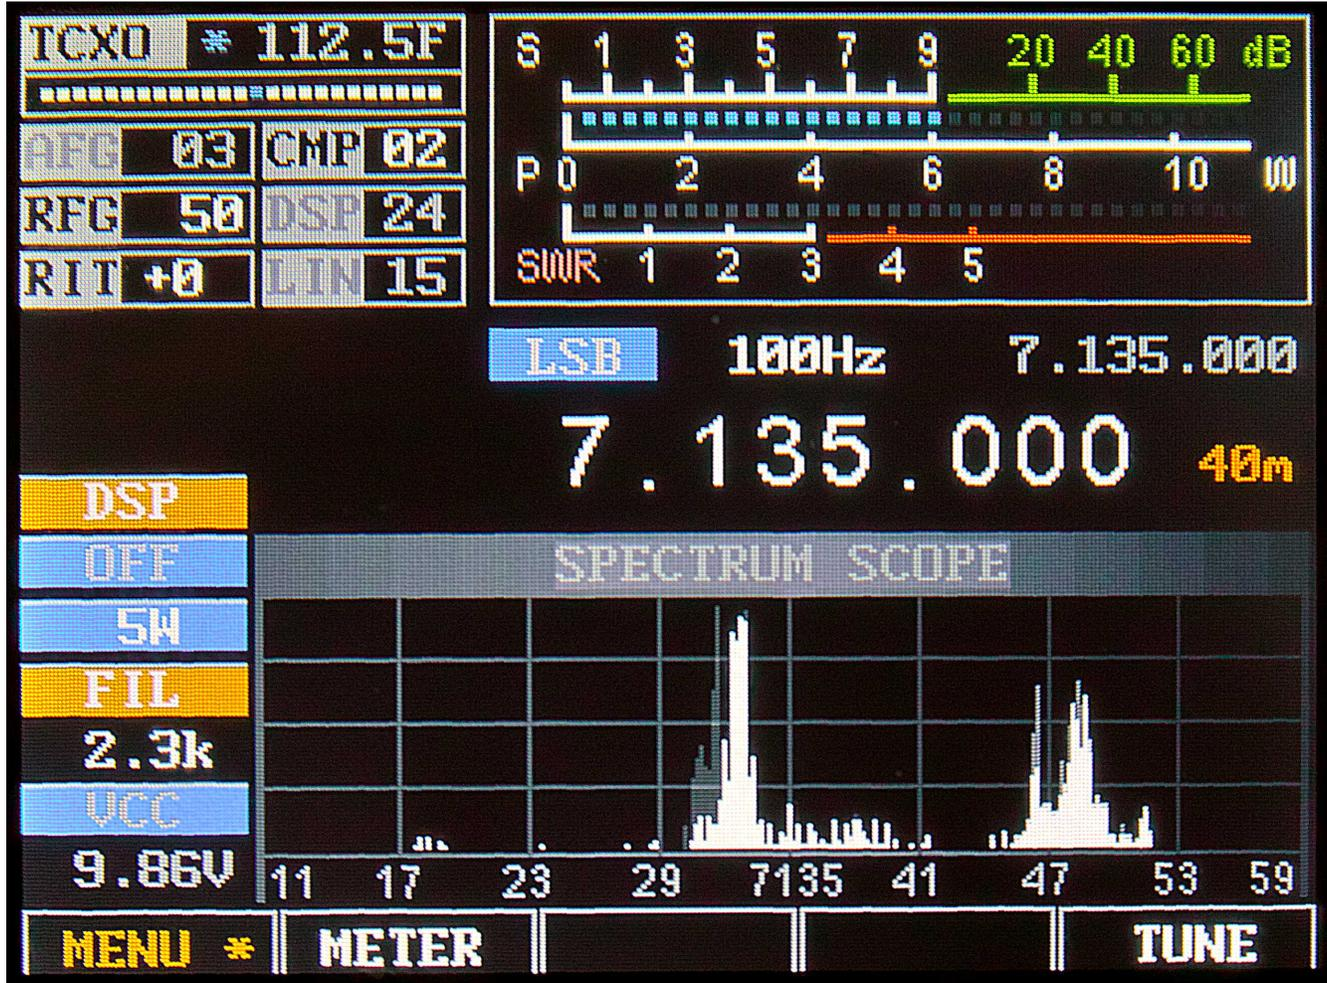

Figure 2: Main display of the mcHF transceiver.
- **Band Display:** To the right of the main display is an indicator of the amateur band in which the current frequency is tuned. If the current frequency is outside an amateur band it will display “Gen” (e.g. “General Coverage”). In **Figures 2 and 3** the band is set to 40 meters.
- **Mode Indicator:** Above the “10's” digit of the main frequency display is the current mode displayed on a blue background. In **Figures 2 and 3** the mode is set to LSB.
- **Step Size Indicator:** Above the center of the main frequency display, between the Mode Indicator and the “Sub” Frequency display is the setting of the current step size. In **Figures 2 and 3** the step size is set to 1 kHz. Optionally, a “marker” may be activated that puts a line under the digit indicating the currently-selected step size (*see the menu item “Step Size Marker”*).
- **TCXO Mode/Display:** In the top-left corner the “TCXO” box indicates whether the TCXO (Temperature-Compensated Xtal Oscillator) is active or not. The TCXO is used to read the temperature of the Si570 synthesizer (U8 on the RF board) and apply a compensation to it to keep on frequency. When it is active the bar graph below the temperature display will display white dots with a blue marker that moves about but when set to “Off”, the bar graph will be grayed out. If set to “Stop” the temperature display will be replaced with “STOPPED”. In **Figures 2 and 3** the TCXO is set to ON and displaying a temperature of 112.5F, but this may be set to display the temperature in Centigrade.
- **S-Meter:** This S-meter is nominally calibrated so that S-9 equals 50 microvolts into a 50 ohm load with each S-unit representing 6 dB. Practically speaking, the usable range of the S-meter ranges from about S-3 to something a bit higher than “40 over” which, if you were “run the numbers” about matches the dynamic range of the receiver! The bottom half of the S-Meter's graticule (“S0-S9”) is normally white in color, but if the receiver's A/D converter experiences an overload condition, it will turn red. On bands with strong signals it is normal for this to momentarily flash red as the internal gain control adjusts itself. In **Figures 2 and 3** the S-meter is displaying a signal level of S-9.
- **VCC:** Below this is a voltmeter that indicates the current supply voltage. Below 9.50 volts, the digits are displayed in red indicating that the voltage may be too low for the transceiver to operate properly. *Note that below 10.5 volts, attempting to obtain more than 3-5 watts of “clean”, distortion-free RF output from the transceiver may not be possible, particularly on the higher bands!* In **Figures 2 and 3** the voltmeter is indicating 9.86 volts.
- **FIL:** Below this is the current filter bandwidth setting, selectable by using button **G4**. In **Figures 2 and 3** the bandwidth is shown being set to 2.3 kHz.
- **Power Output Setting:** Just above the **FIL** icon is the currently-selected output power setting, selectable using button **G3**. In **Figures 2 and 3** the power is shown being set to 5 watts.